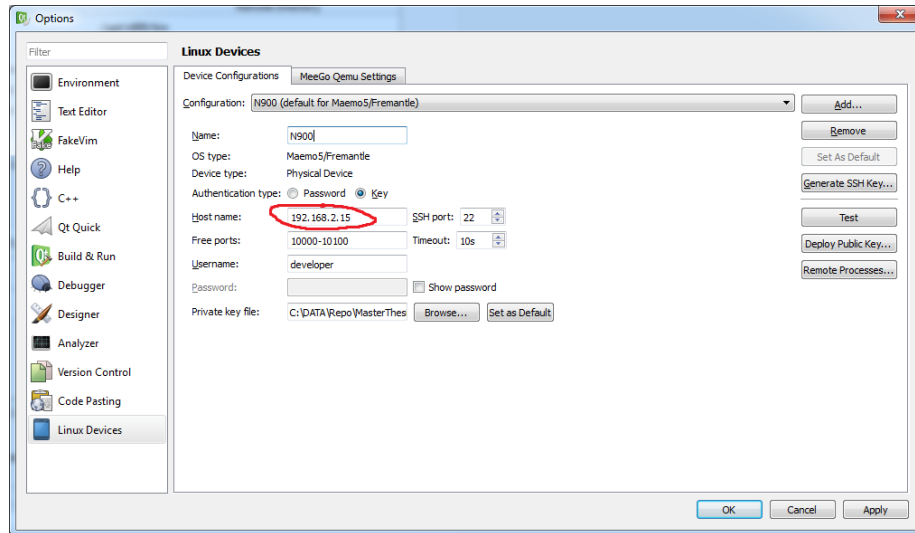

Figure 1: Setting up the QtCreator - adding a remote device.
- Go to Tools → Options and select the tab Linux Devices (depicted in Figure 1). Set the IP address of the N900 (the default when connected via a USB cable is 192.168.2.15). To connect for the first time, use the Mad Developer on your N900 to generate a temporary password. Then deploy a public key and set the authentication type to *key*, so that you no longer need to use a password.